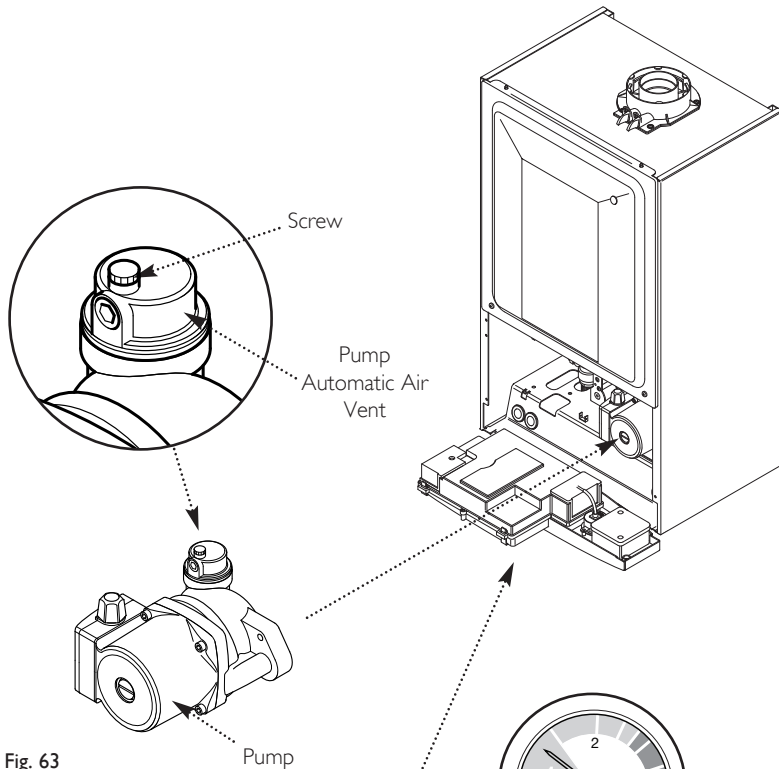

Fig. 63
6. Open the screw on the automatic air vent on the pump body (Fig. 63).